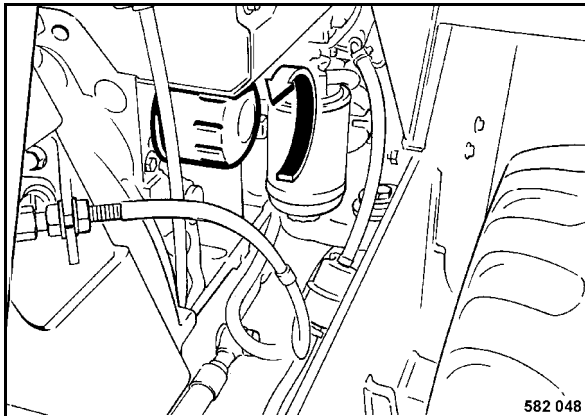

Fig. 73
- Unscrew the filter cartridge (Fig. 73) using an appropriate filter wrench.